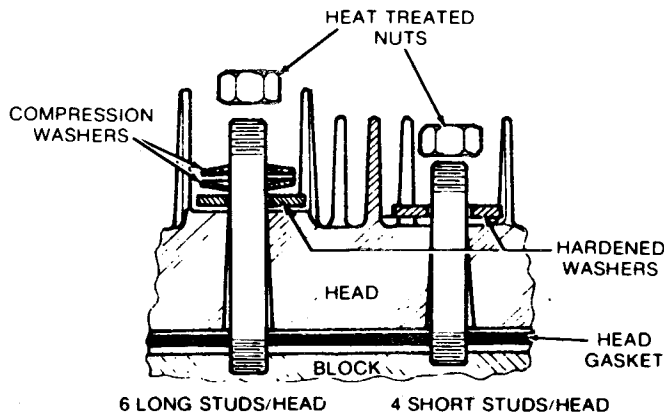

FIGURE 28. CYLINDER HEAD WITH COMPRESSION WASHERS
5. Install a flat washer, two compression washers, and nut on each of the top six studs (see Figure 28 for correct sequence). When properly installed, only the outside edges of the compression washers will be in contact with each other. Install a flat washer and nut on each of the four bottom studs.